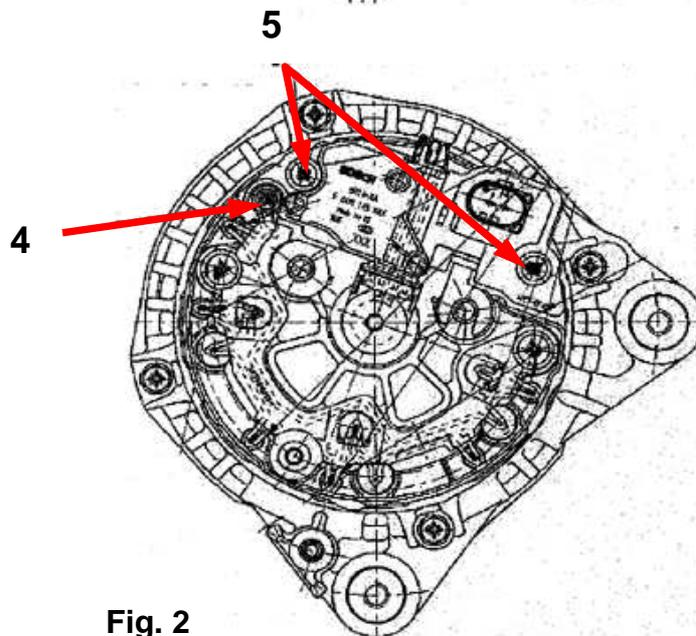

Fig. 2
- Unscrew the phase contact screw (see Fig. 2, Item 4).
- Take off the fastening screws from the regulator and take the regulator out of the generator (see Fig. 2, Item 5).